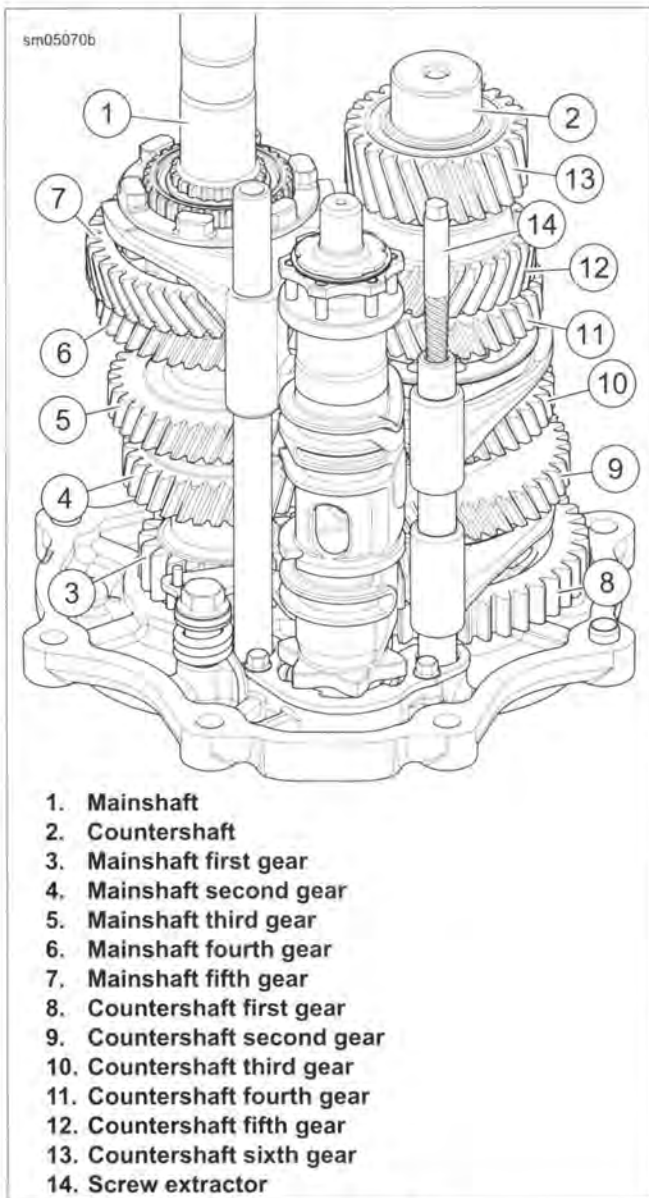

Figure 6-13. Gear Set
1. See Figure 6-13. Remove shift fork shafts: